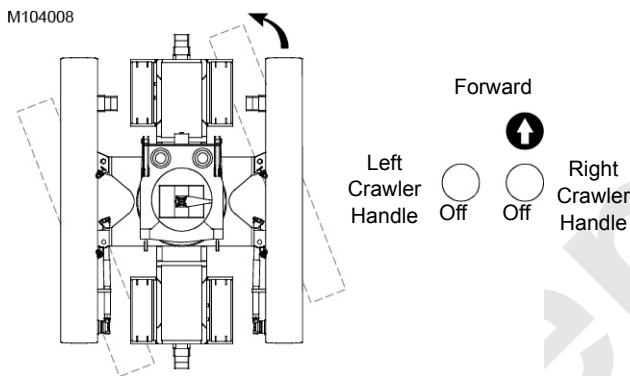

FIGURE 3-23
- Avoid sharp turns if possible (Figure 3-23).
8. To make a sharp left turn, move the right crawler handle to the front and leave the left crawler handle off. The crane will pivot about the left crawler (Figure 3-23).